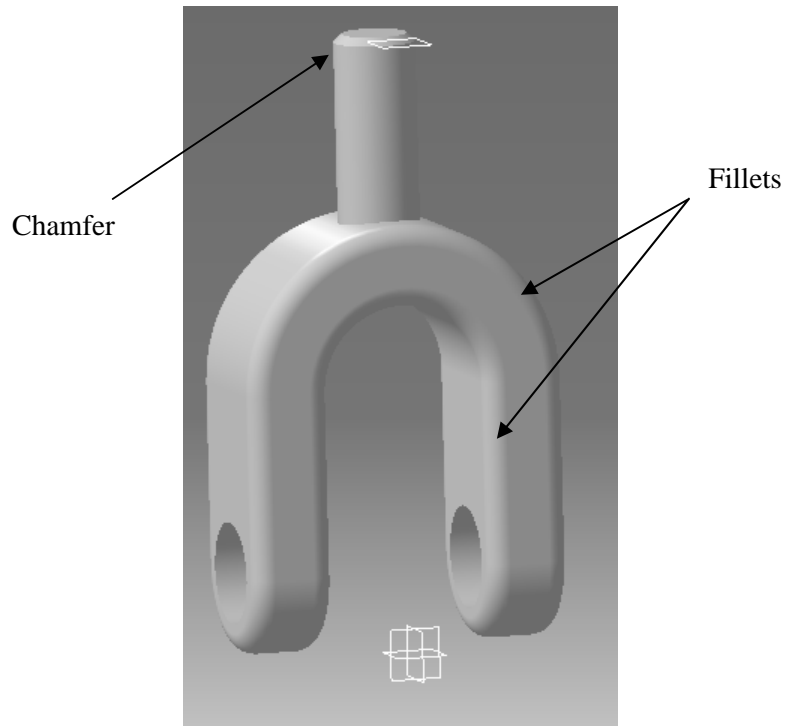

Figure 2.13
- 2.22 Add a **2mm Chamfer** to the top edge of the shaft as shown in figure 2.13
- 2.23 Add a **5mm radius Fillet** to all of the exterior edges of the solid as shown in Figure 2.13